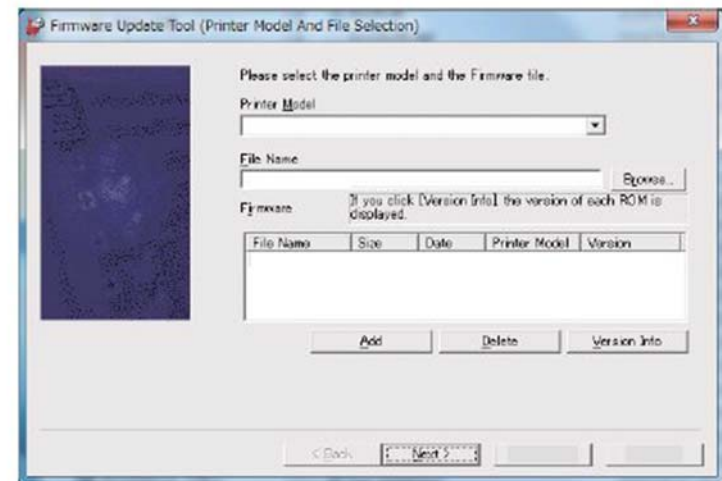

Figure 2 Printer model and file
9. Select the Printer model from the pull-down menu then browse to where the firmware file (.bin) is located and double click the .bin file, then touch **Add** and then touch **Next**, Figure 2.